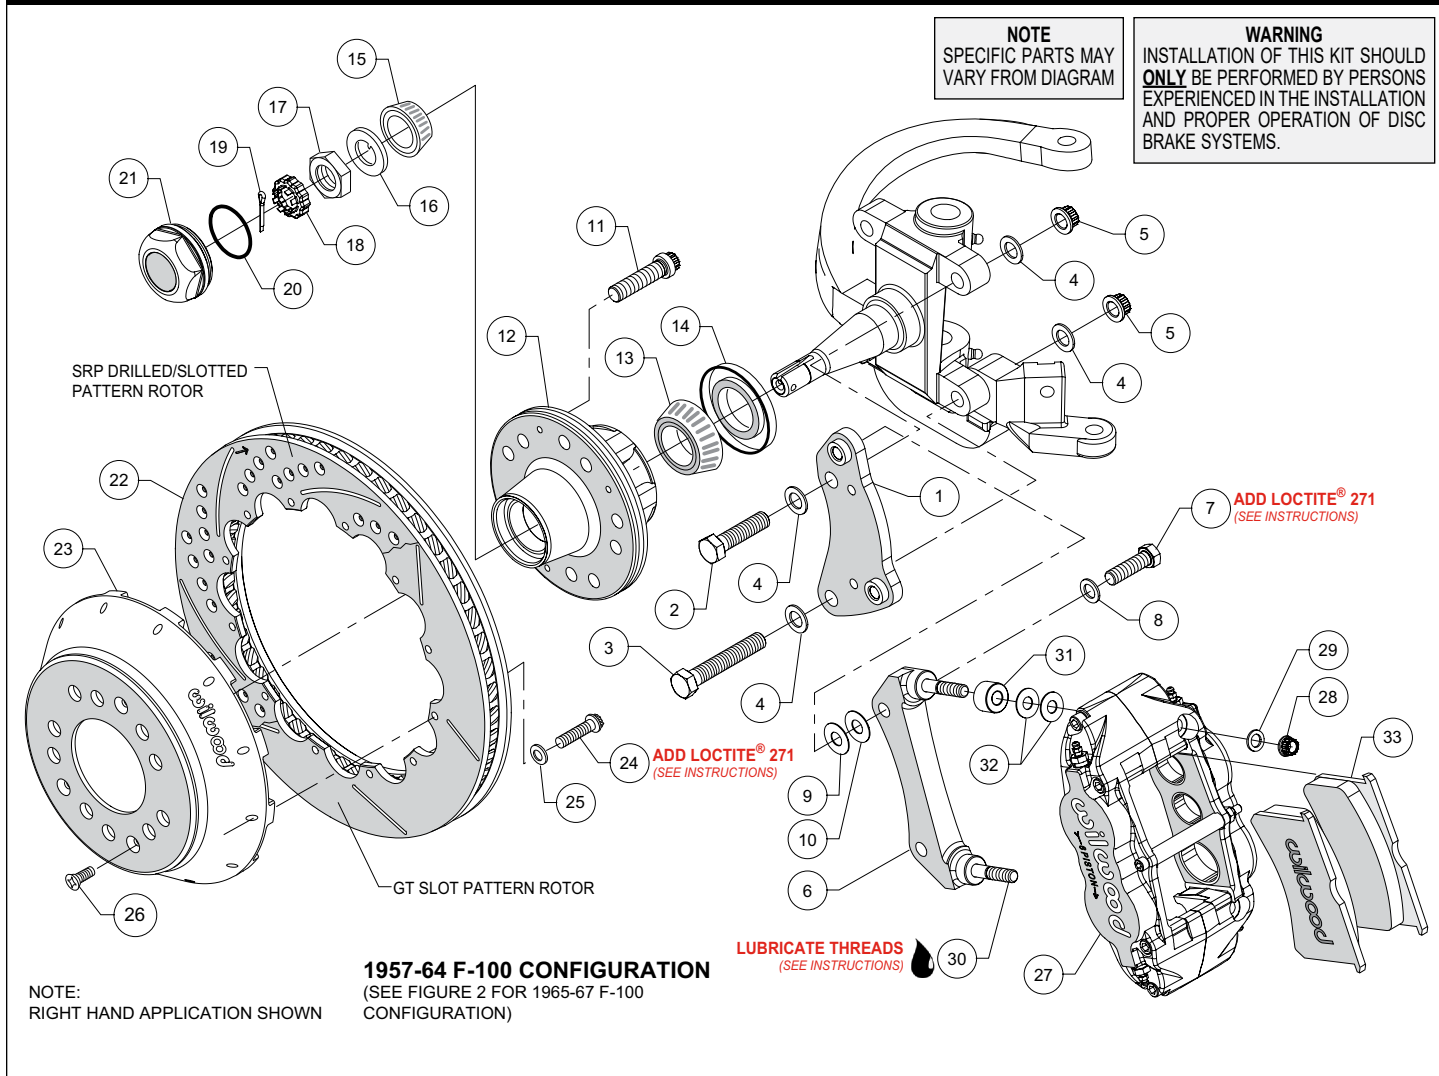
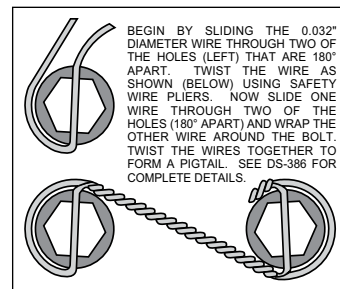

Figure 1. Typical Installation Configuration, Model Years 1957-1964
Figure 4. Safety Wire Diagram
NOTE: Numbers in parenthesis refer to the parts list and Figures 1 and 2 on the preceding pages.
- Orient the spindle bracket (1) as shown in Figure 1 or 2, and Photo 1, and install using bolts (2 and 3), washers (4) and nuts (5). Temporarily tighten the mounting bolts. Ensure that the flanged heads of the clinch nuts in the bracket are facing outboard, Photo 1. **NOTE:** The bracket must fit squarely against the mount bosses on the upright. Inspect for interference from casting irregularities, machining ridges, burrs, etc. Torque lock nuts (5) to 65 ft-lb.
- The caliper mount radial bracket (6) should initially be installed with clean, dry threads on the mounting bolts. Orient the bracket as shown in Figure 1 or 2, and Photo 2. Install onto the spindle bracket using bolts (7), and washers (8). Initially place one .030 thick shims (9) on each bolt between the radial and spindle brackets, Figure 1 or 2. Temporarily tighten the mounting bolts. Later, after the caliper alignment has been checked, the mount bolts will be secured using red *Loctite*® 271.
- Install wheel studs (11) into the hub (12), Photo 3. Torque to 77 ft-lb. **NOTE:** There are two five lug patterns in the hub (5 x 4.50 and 5 x 4.75). Ensure the correct hub stud pattern is being used to fit the wheel application.
- Pack the large inner bearing cone (13) with high temperature disc brake bearing grease (available from your local auto parts store) and install into the backside of the hub (12), Photo 4.
- Install the grease seal (14, years 1957-1964) or (14A, years 1965-1967) by pressing into the backside of the hub (12), flush with the end of the hub, Photo 5.
- Pack the small outer bearing cone (15) with high temperature disc brake bearing grease and install into the front side of the hub (12), Photo 6. Slide the hub assembly onto the spindle. Secure using spindle washer (16) and spindle nut (17). Adjust bearings per OEM specifications. Install spindle nut retainer (18) and cotter pin (19), Photo 7.
- Screw dust cap (21) into hub (12), Photo 8. Friction created by the o-ring (20) on the dust cap keeps it from unscrewing. **NOTE:** The O.D. of the existing OEM spindle washer may be larger than the I.D. of the dust cap not allowing it to seat against the hub face. Therefore, use the spindle washer (16) supplied with the kit instead of the OEM washer.
- Orient the rotor (22) and the hat (23) as shown in Figure 1 or 2 and Photo 9. Attach rotor to hat using bolts (24) and washers (25). Apply red *Loctite*® 271 to the bolt threads and torque to 155 in-lb using a criss-cross pattern. For an added measure of security, the bolts may be safety wired using standard 0.032 inch diameter stainless steel safety wire as shown in Figure 4. Refer to Wilwood's data sheet DS-386 (available at www.wilwood.com/Pdf/DataSheets/ds386.pdf) for complete safety wire installation instructions.
- Slide the hat/rotor assembly (23/22) onto the hub (12) taking care to align the small countersunk holes in the hat with the small threaded holes in the hub, Photo 10. **NOTE:** The hat must fit flush against the hub face or excessive rotor run out may result. Install three flat head screws (26) through the small holes in the hat, and torque to 85 in-lb.
- **NOTE:** This kit contains distinct right and left hand calipers that must be mounted in a specific direction, as described below. Lubricate the caliper mounting studs (30) with lightweight oil. Initially place one spacer (31) and two .035" thick shims (32) on each stud between the caliper and the bracket, as shown in Figure 1 or 2, and Photo 11. Mount the caliper (27) onto the bracket (6) using lock nuts (28) and washers (29), Figure 1 or 2. Ensure that the caliper is mounted so the largest pistons are at the rotor exit end of the caliper, in relation to the direction of rotor rotation. Temporarily tighten the lock nuts and view the rotor through the top opening of the caliper. The rotor should be centered in the caliper, Photo 12. If not, adjust by adding or subtracting shims (9 and/or 10) between the spindle bracket (1) and the caliper mount